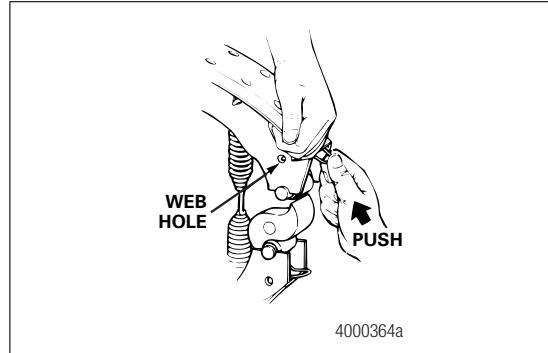

Figure 5.17
- Push the brake shoe roller retainer into the brake shoe until the ears lock into the shoe web holes. Figure 5.17.